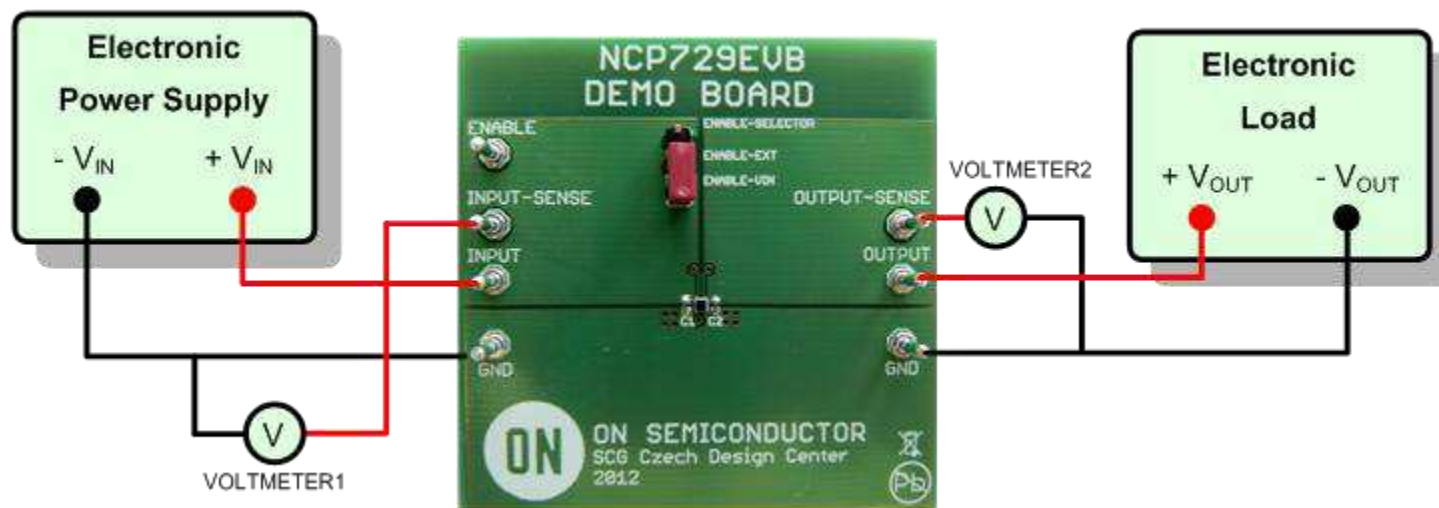

Figure 1. Test setup for the measurements of basic regulation characteristics
1. Connect the test setup as shown on Figure 1,